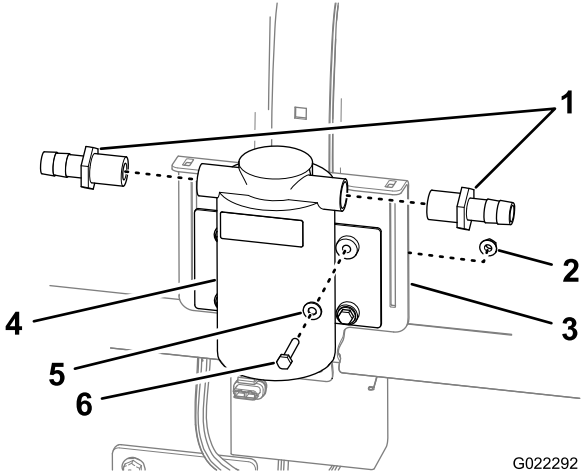

Figure 9
- 2. Secure the pump to the frame using the 4 bolts, small washers, and nuts (Figure 9).
- 3. Install the 2 straight barbed fittings into the inlet and outlet ports of the pump (Figure 9).